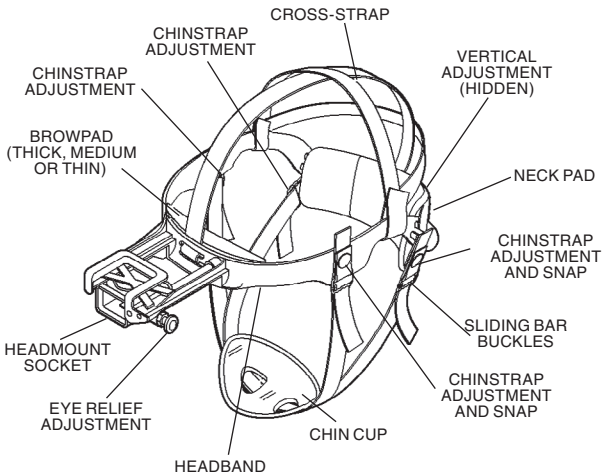

FIGURE 2.2. ODIN HEADMOUNT ADJUSTMENTS
- (2) Snap the front and rear snaps (Figure 2.2.) in place.
If the headmount is too loose, remove the attached thin browpad (Figure 2.2.) and replace with either the medium or thick browpad stored in the carrying case. Refer to paragraph for removal and replacement of the browpads.
- (3) With both hands grasp the neck pad (Figure 2.2.) and pull the harness over your head and the neck pad down to the back of your neck.
- (4) Holding the chin cup in position on chin, adjust both sides of the chinstrap until you feel light pressure against your chin. (DO NOT TIGHTEN.)
- (5) Maintain the position of the chin cup and remove any slack from the chinstrap. (DO NOT TIGHTEN.)
It may be necessary to remove the browpad (Figure 2.2.) when wearing the headmount over a protective mask.